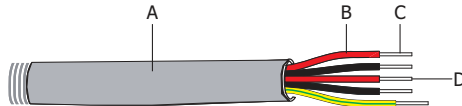

Figure 4.3-3 Ac connection line
Step 1. Prepare the terminals and AC cables according to the right table. See Figure 4.3-3.